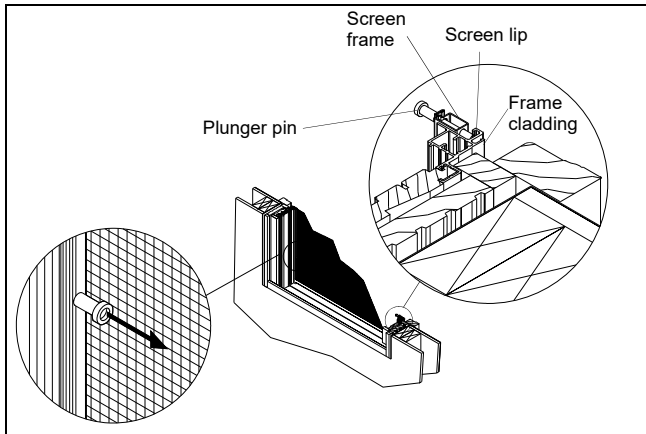

Figure 30
31. Grasp plunger bolts and pull inward as shown in figure 30. Push screen outward, grasp screen frame, pull down slightly. Turn screen sideways and bring into dwelling.